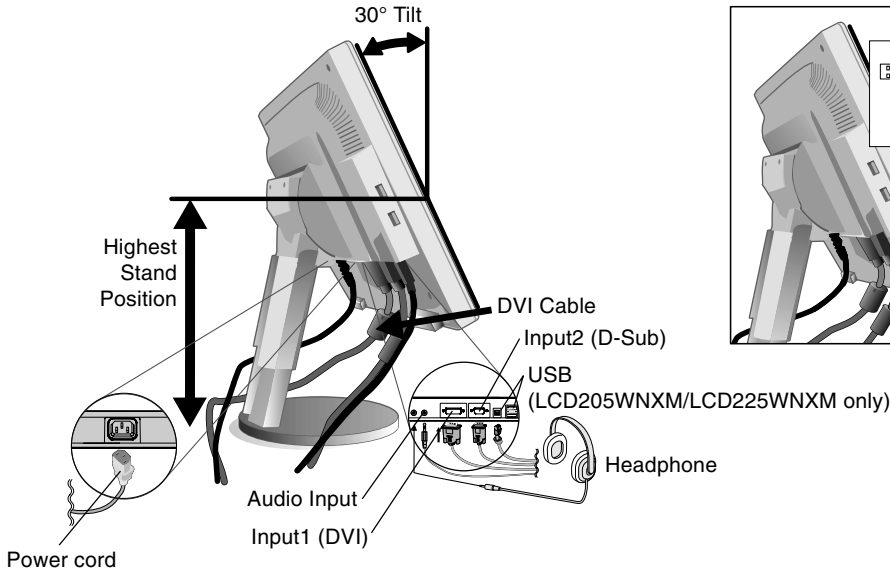
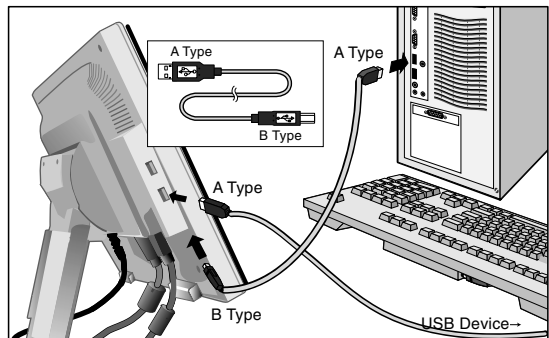

Figure B.1
Figure C.1
- Place hands on each side of the monitor to tilt the LCD panel 30-degree angle and lift up to the highest position (**Figure B.1**).
- Connect all cables to the appropriate connector on the back of the monitor (**Figure B.1**). Using the USB cable, connect the B type connector to the USB upstream port on the bottom of the monitor and A type connector to the downstream port on the computer (**Figure C.1**). If you can use the cord from the USB device, use one of the downstream ports on the side or bottom of the monitor. Connect Headphones (not included) to the appropriate connector at the rear side of the monitor, if desired (**Figure B.1**).